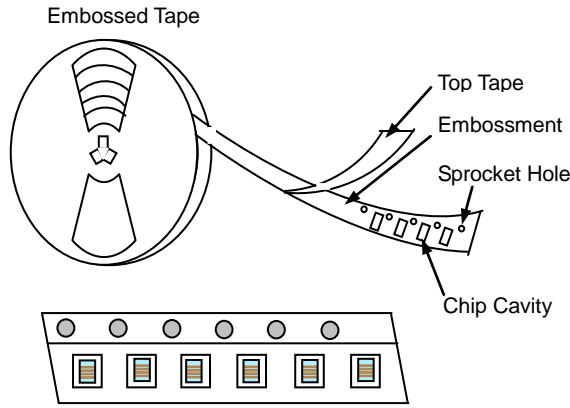

Fig. 6.1-1
- i. Tape carrier packaging are specified in attached figure **Fig. 6.1-1~3**